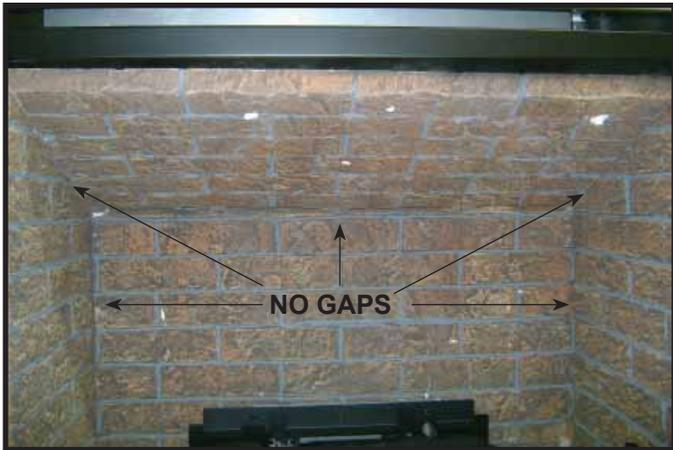

Figure 4. Top Refractory Panel Installed
- Installation is complete when top refractory panel is set securely in place. Top refractory panel may need to be pulled down to fit correctly. Chamfers should properly fit together and gaps should be minimized with correct installation. See Figure 4.
**CAUTION:** Logs are fragile, handle with care. **Log #1 (2166-721):** Locate log placement tabs on the pilot cover. Bend tabs upward as shown in Figure 3. Tabs should be in a vertical orientation. A pliers may need to be used. Locate the log placements slots on the bottom of Log #1. See Figure 4. Mate the slots located on the bottom of Log #1 with the placement log tabs on the pilot cover. Log #1 is properly installed when it sits squarely and completely on pilot cover with tabs engaged. See Figure 5.